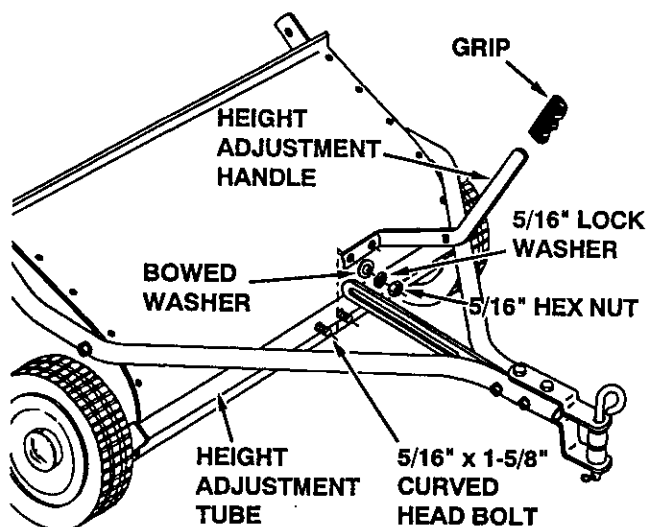

FIGURE 5
- Assemble the height adjustment handle to the height adjustment tube using the curved bolts, washers and nuts which come pre-assembled to the tube. Position the height adjustment handle so that the height adjustment strap is aligned with the outside (left side) of the handle and then **tighten**. See figure 5.
- Assemble the grip onto the end of the height adjustment handle as shown in figure 5.